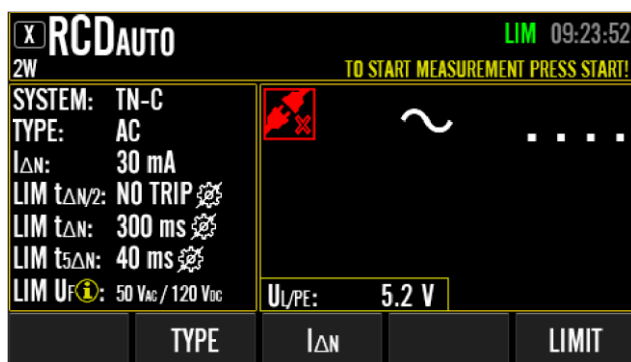

Figure 49: Idle screen in RCD AUTO measurement with extended range of menu keys (after pressing “EDIT” menu key), example
- 5) Press “EDIT” menu key to get into idle screen with extended menu keys, see the figure 49 above.
- 6) Select type of RCD (AC) to be tested by pressing “TYPE” menu key first.
- 7) Select/adjust all test parameters according to available menu keys shown on the figure 49 above.